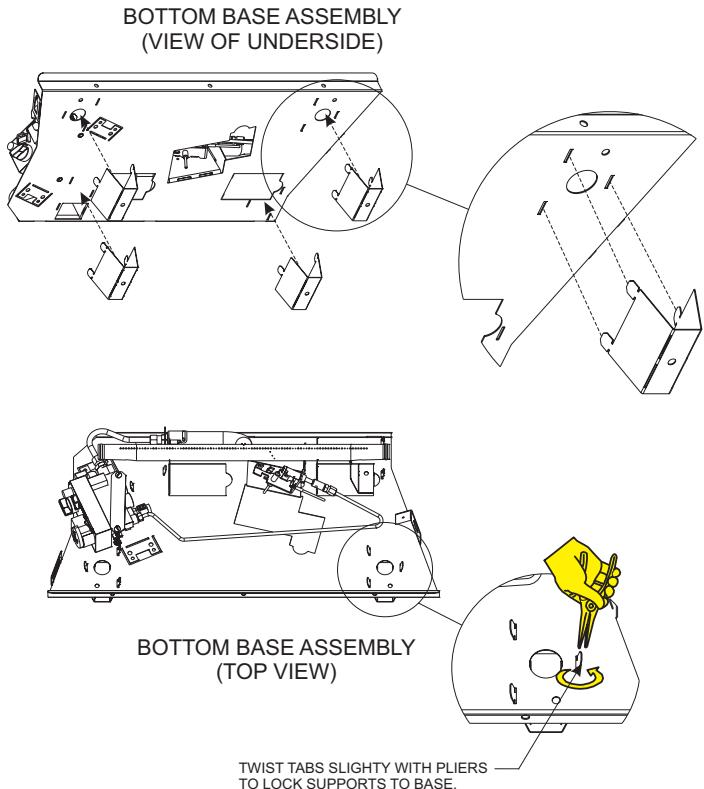

Figure 10
- If a Remote Control option is to be used with the VFRL (millivolt) series burner without the Support Legs installed, the remote receiver box must be installed outside of the firebox away from excessive heat. However, the remote receiver may be placed under the elevated Loft Burner by installing the Burner Support Legs. See Figure 10.
To install the Support Legs, simply bend each of the legs into a "U" shape to match the drawing in Figure 11. Next, install the legs into the bottom base. Line up the three tabs on each leg with the slots provided, using pliers, twist each of the tabs slightly to secure the legs to the bottom base. See Figure 10.